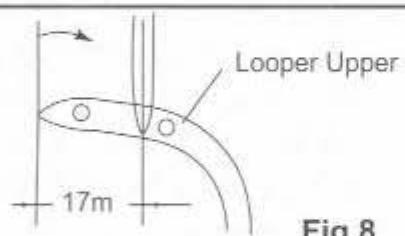
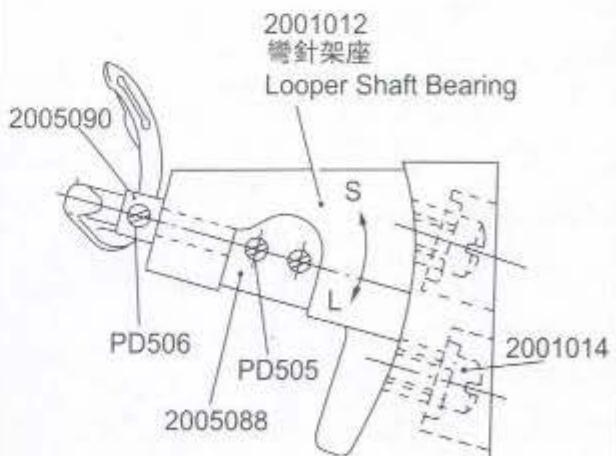

Fig.8
Fig.11
- (1) Turn pulley clockwise until upper looper (2005091) is in the most forward position. Adjust distance between needle center and upper looper point of 17mm (Fig. 8). Tighten screw (PD505) of spreader lever (2005088), Fig. 11 after adjusting.
- (2) Turn pulley clockwise to see upper looper point clears shaved part of lower looper. The clearance must be 0 to 0.1mm (Fig. 9). To obtain the distance, adjust upper looper, and tighten screw (PD506) of spreader lever shaft (2005090), Fig. 11.
- (3) Turn pulley clockwise to see jaw of upper looper just clears needle as it moves from its most forward position to the right. The clearance must be between 0 and 0.1mm as shown in Fig. 10. To adjust, loosen setscrew (2001014) in Fig. 11 and lift looper shaft bearing (2001012) in direction of S to decrease clearance, or lower it in direction of L to increase. Tighten setscrew after adjusting.